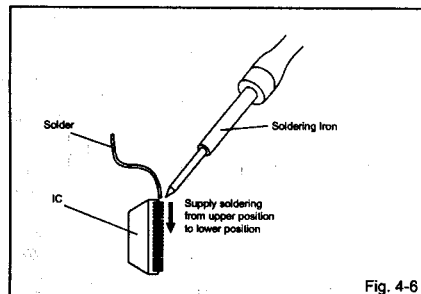

Fig. 4-6
2. Supply the solder from the upper position of IC leads sliding to the lower position of the IC leads. (Refer to Fig. 4-6.)